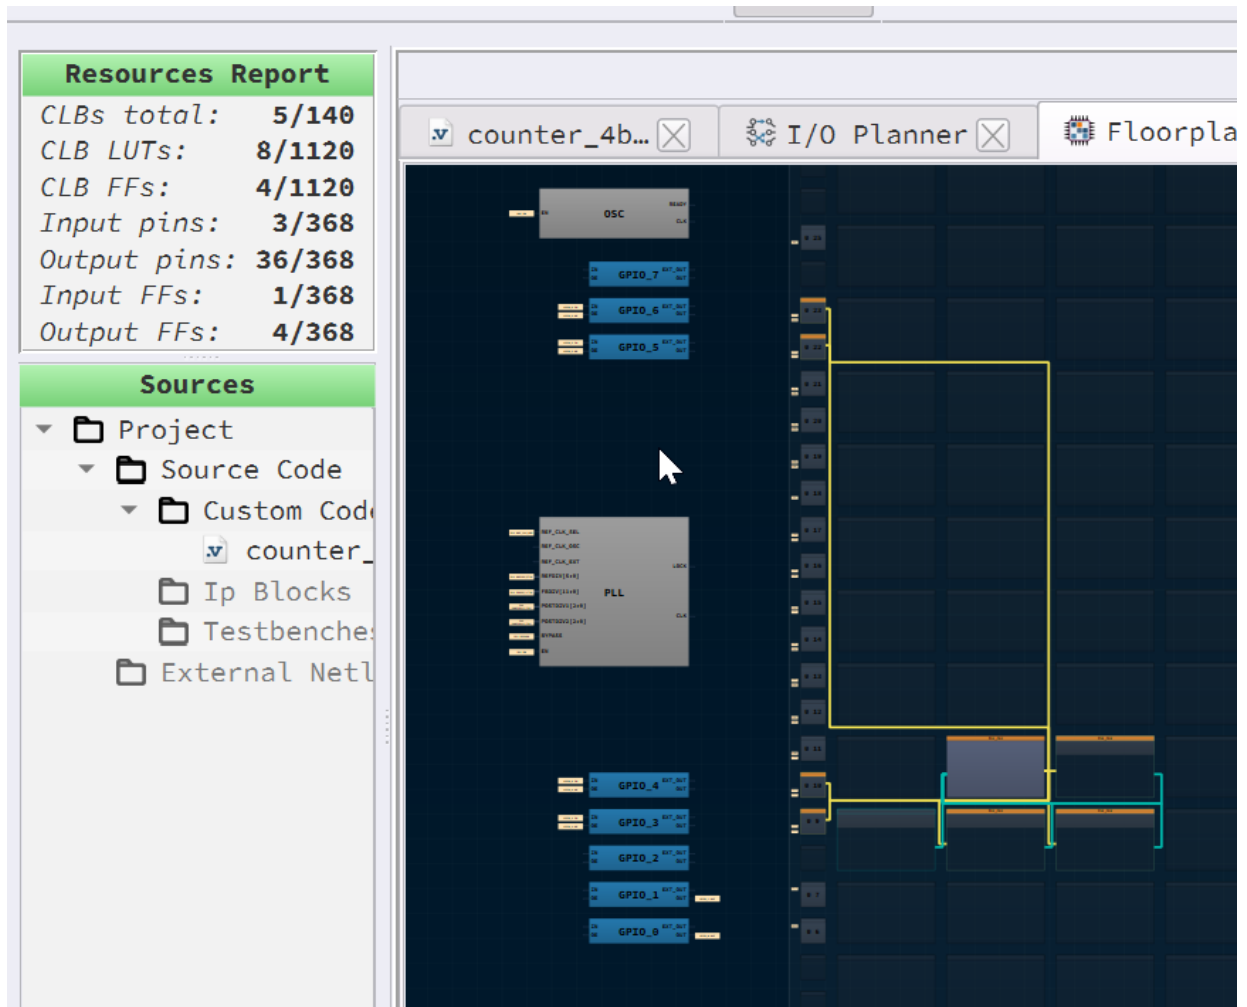

Figure 3: Floorplan
8. Now click on the Floorplan tab and see the CLB utilization (Figure 3). Press the Ctrl and the mouse wheel to zoom-in. Confirm that the IOs selected in the IO Planner are shown in the floorplan